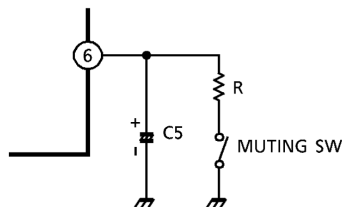

Fig.2
Audio muting can be accomplished by connecting pin (6) (ripple filter) to GND as shown in Fig.2. Then, the bias circuits are cut off.